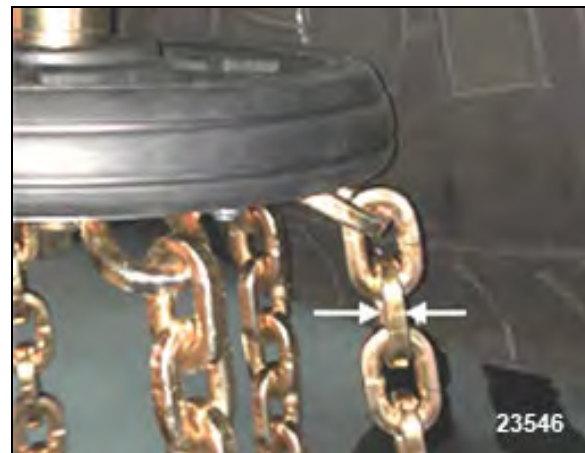

FIGURE 31: CHAIN STRAND MIN DIAMETER 0.130"
- Replace wheel assembly when any of the chain strands reach 0.130in (3.25mm) in diameter (equivalent to 50% wear FIGURE 31)